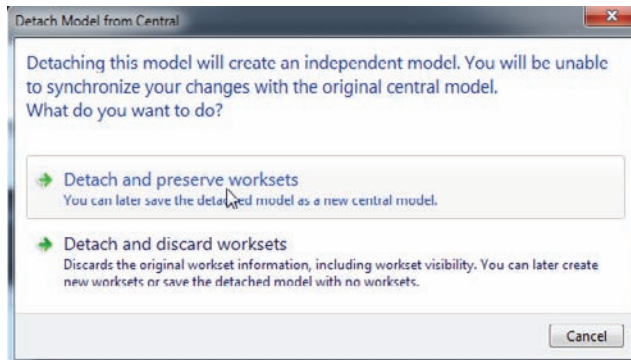

FIGURE 22.19 Preserving the worksets
6. New to Revit 2012, you can turn off all file sharing and put the model back into a single-user state. In this instance, however, click Detach And Preserve Worksets, as shown in Figure 22.19.